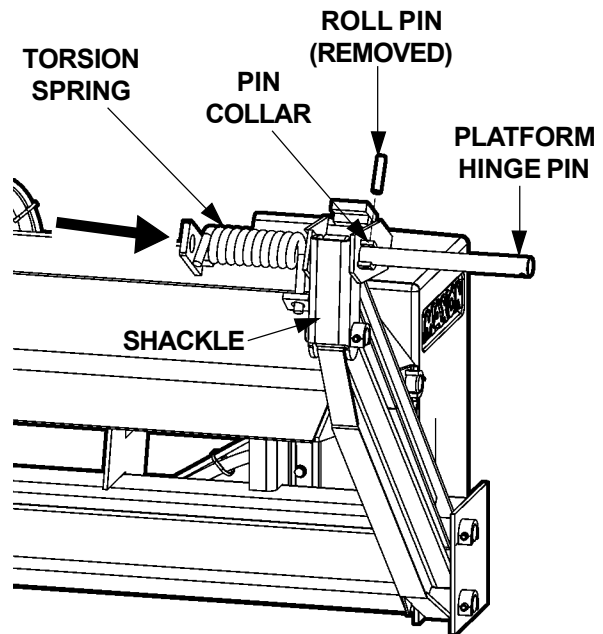

FIG. 14-1
3. Drive out the roll pin from pin collar on the Platform Hinge Bracket. Drive the platform Hinge Pin outboard from the Shackle just enough to free the torsion spring (FIG. 14-1). Remove spring from Shackle.